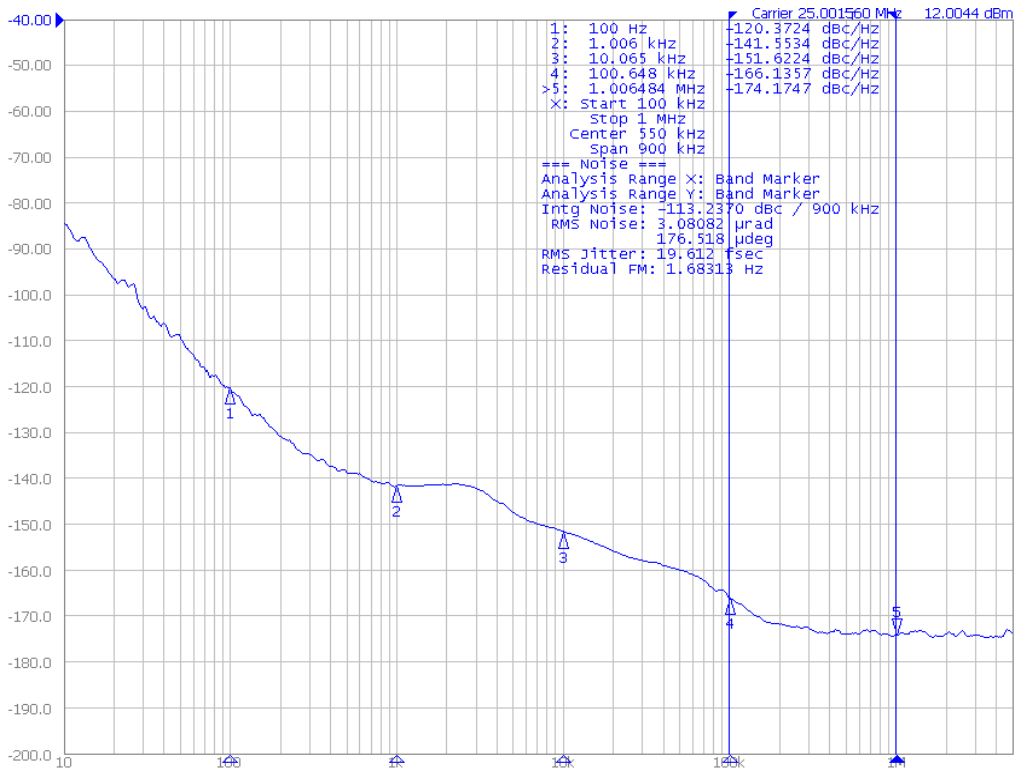

Figure 5. Typical Phase Noise Plot of the NB3H83905C Operating at 25 MHz V_{DD} = V_{DDO} = 3.3 V
4. Parallel terminated 50 Ω to V_{DDO}/2 (see Figure 5).